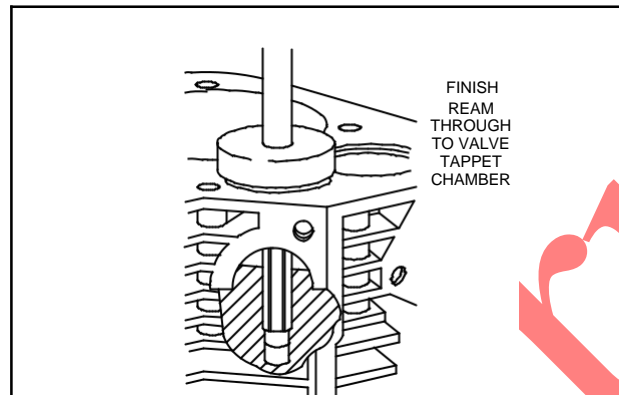

Fig. 14 – Finish Ream
1. Finish ream guide with reamer #19233, and pilot guide #19234, Fig. 14.